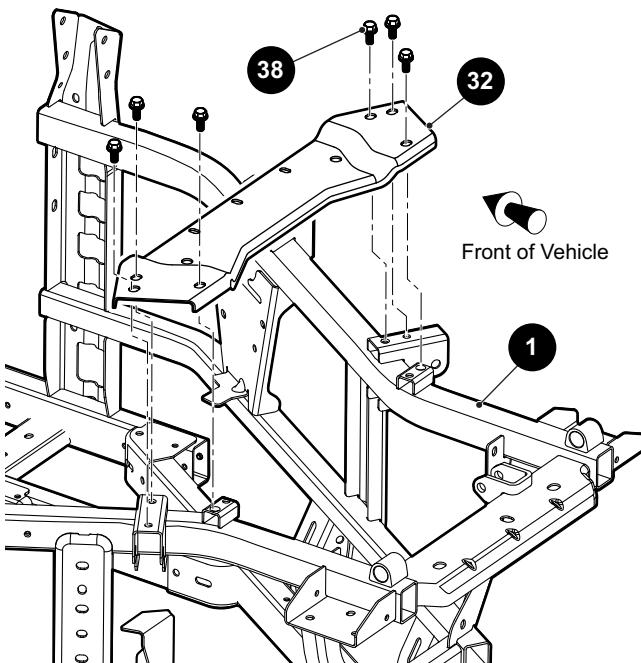

Fig. 4 Rear Shock Tower Brace
1. Remove the bolts (8) that secure the front shock tower brace (7) to the frame (1) (Ref. Fig. 4).